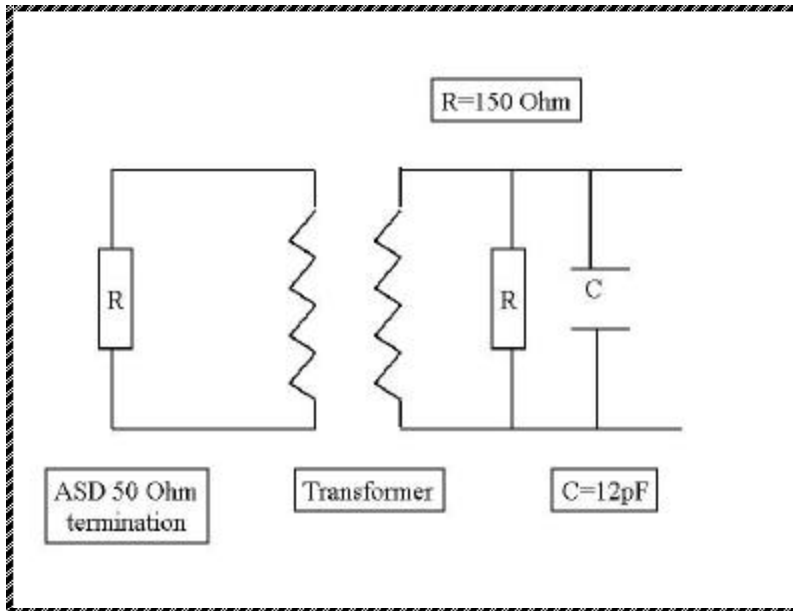
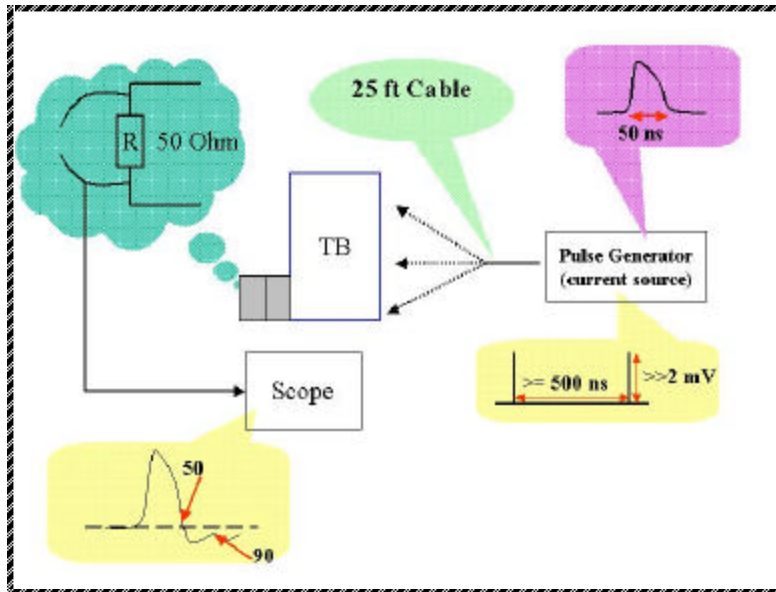

Figure 1
Figure 3
**Setup:** Look at Figure 3. The schematic for the ASD side of the connection is shown on Figure 1. We decided to go with **RC** circuit because it forces the reflection signal to stay below zero, which is below in turn than the ASD threshold. We will fake ASD termination by a P3 connector with 50-Ohm termination for each channel so that we do not have to plug the TB into the crate.